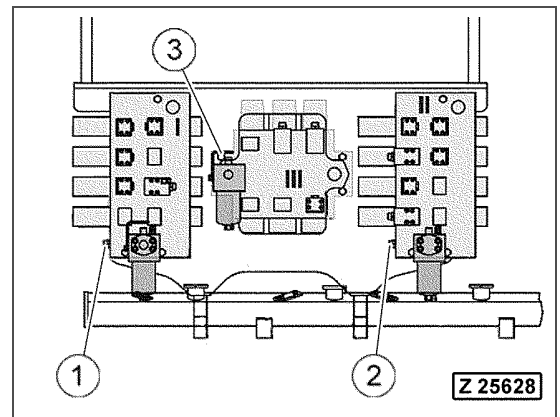

Fig. 3-138
- Remove the MRV (Fig. 3-138, Pos. 1, 2 or 3) from the main control valve block.
NOTE: Tighten the MRV (Fig. 3-138, Pos. 1, 2 or 3) to the specified torque.